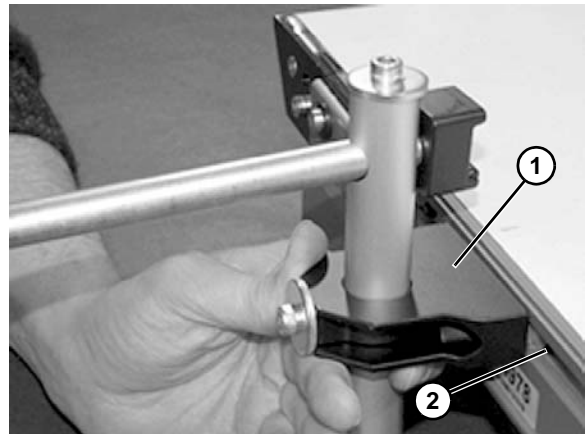

Figure 61
1. Install guide bracket assembly (**Figure 61, item 1**) into the conveyor T-slot (**Figure 61, item 2**).